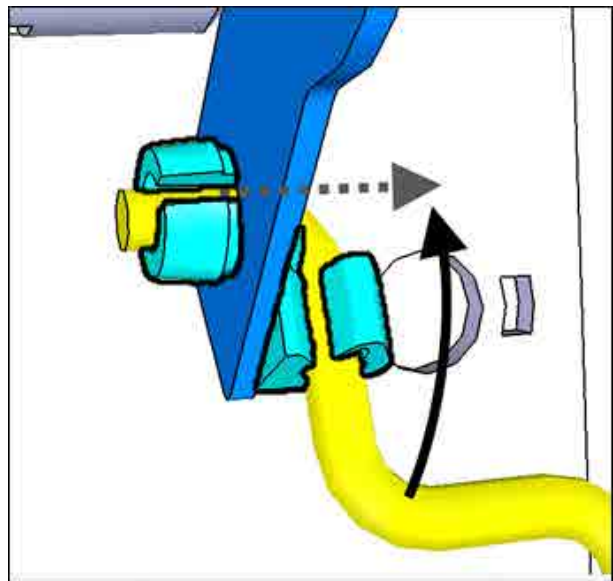

FIGURE 5
6. Remove the actuating rod from the lever by prying open the clip retainer bushing, rotating the rod and pulling it out of the bushing. (Fig. 5)